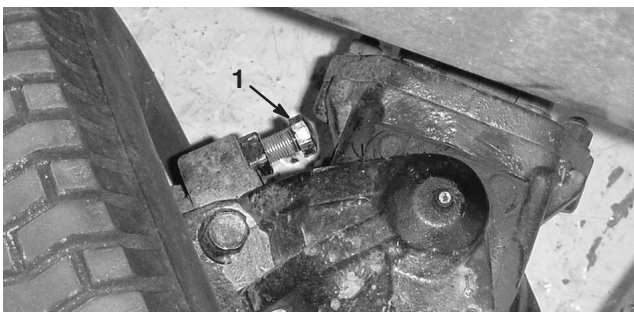

Figure 67
1. Thread the bolts in or out until the .090 inch clearance is attained (Fig. 67).